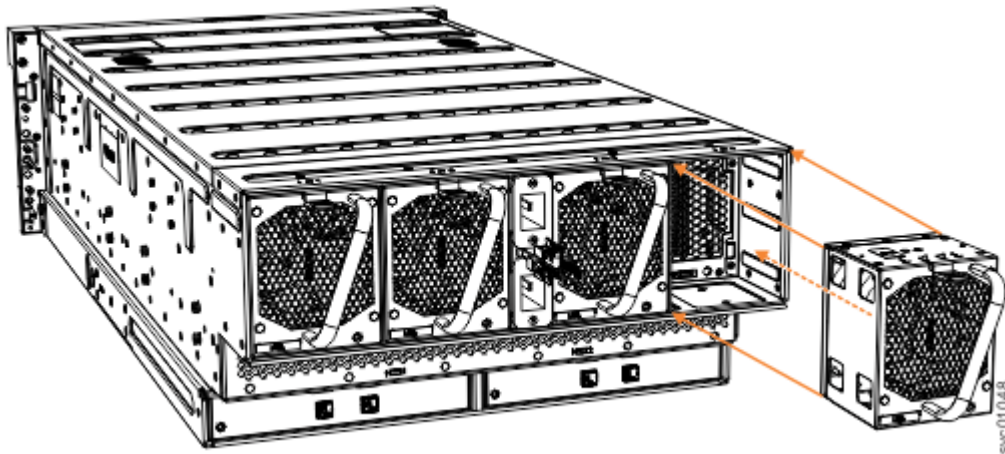

Figure 161. Remove and replace a fan module
3. Use the handle to pull the fan module out of the expansion enclosure chassis, as shown in Figure 161 on page 202.
6. Carefully insert the fan module into the chassis until it clicks in place, as shown in Figure 161 on page 202.